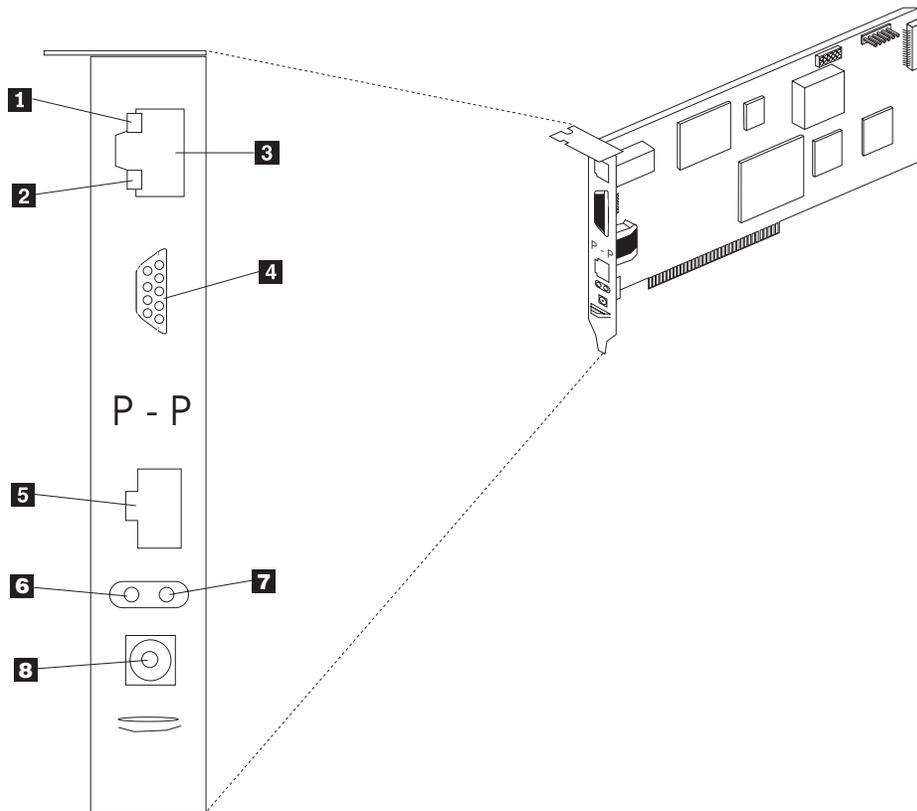

Figure 63. Ethernet LEDs and external ports on the Remote Supervisor Adapter
2. Check the Ethernet LEDs. The location of the LEDs is shown in Figure 63.